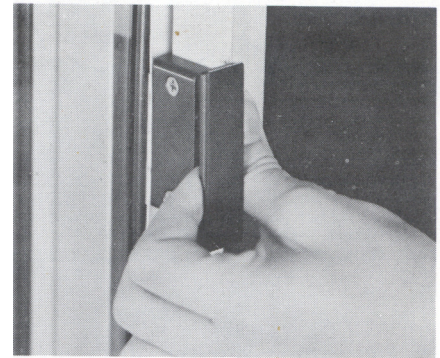

Figure 2
1. Disengage latch on the prime operating sash with the latch (1, Figure 1) by pulling the handle (Figure 2). Tip the handle sideways and rest it on the meeting rail to hold the latch open. (The latch may also be held open manually)